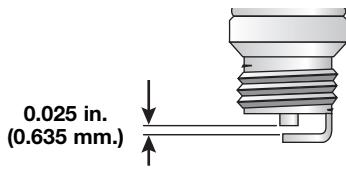

Fig. 38
3. Replace cracked, fouled or dirty spark plug. Set the air gap at **0.025 in. (0.635 mm.)** using a feeler gauge (Fig. 38).